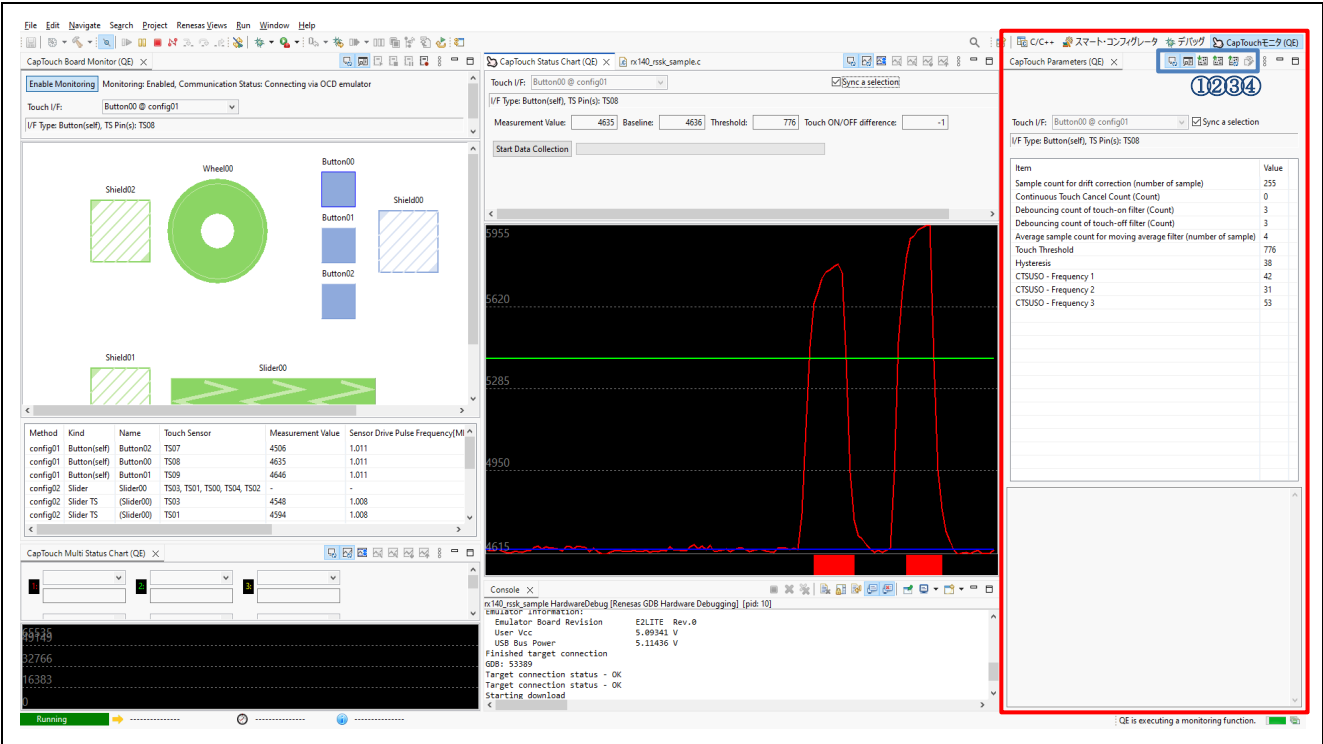

Figure 1-3 Manual Tuning with QE for Capacitive Touch
For Manual tuning , use the "CapTouch Parameters (QE)" in QE for Capacitive Touch (in red box in Figure 1-3). You can change the parameter and check the operation after adjusting it from the "CapTouch Status Chart (QE)" in real time. Parameters adjusted in this view can also be reflected in the source file. Please refer to Table 1-2 for explanations of the functions of the "CapTouch Parameters (QE)" tool bar (in the blue frame in Figure 1-3) used when performing manual tuning. Parameters can be read and written to the application via the CapTouch Parameter icons.